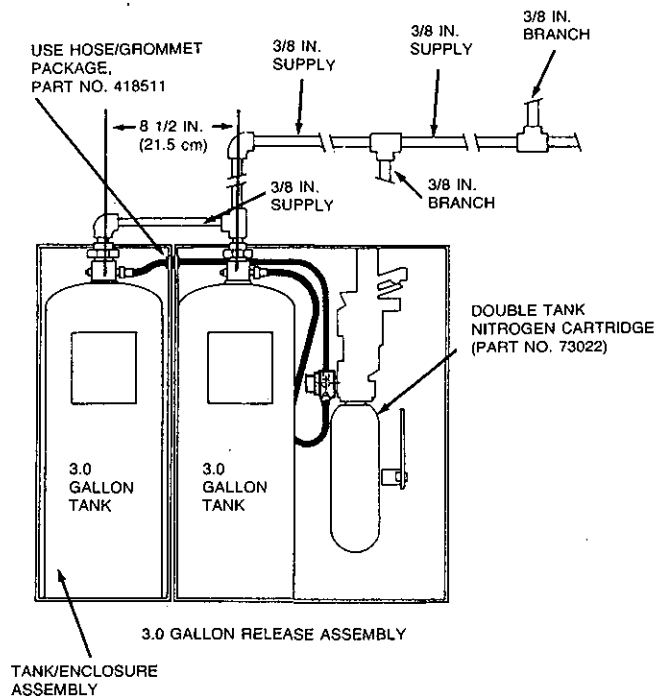

FIGURE 74b
2. See Figure 74b for tank connections.
This configuration consists of two 3 gallon tanks. Both tanks are connected to a common manifold tee and are pressurized from a single double tank (Part No. 73022) nitrogen cartridge in the regulated release assembly. See Figure 74b.